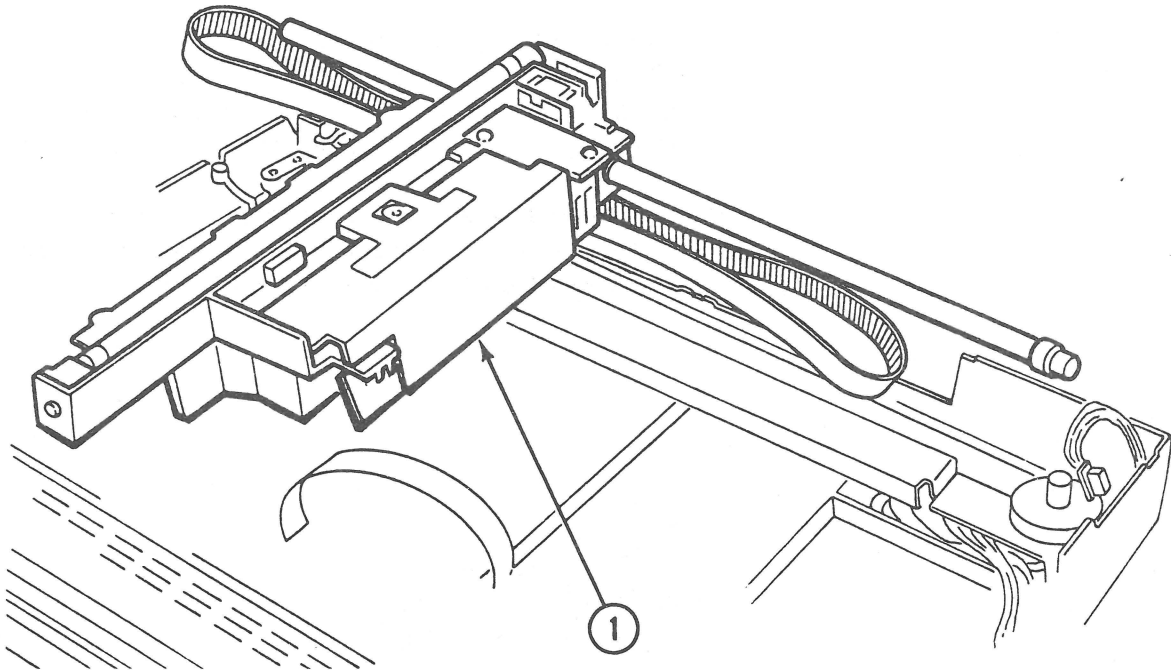

FIGURE 10
14. Lift out the optical assembly (Figure 10, #1).